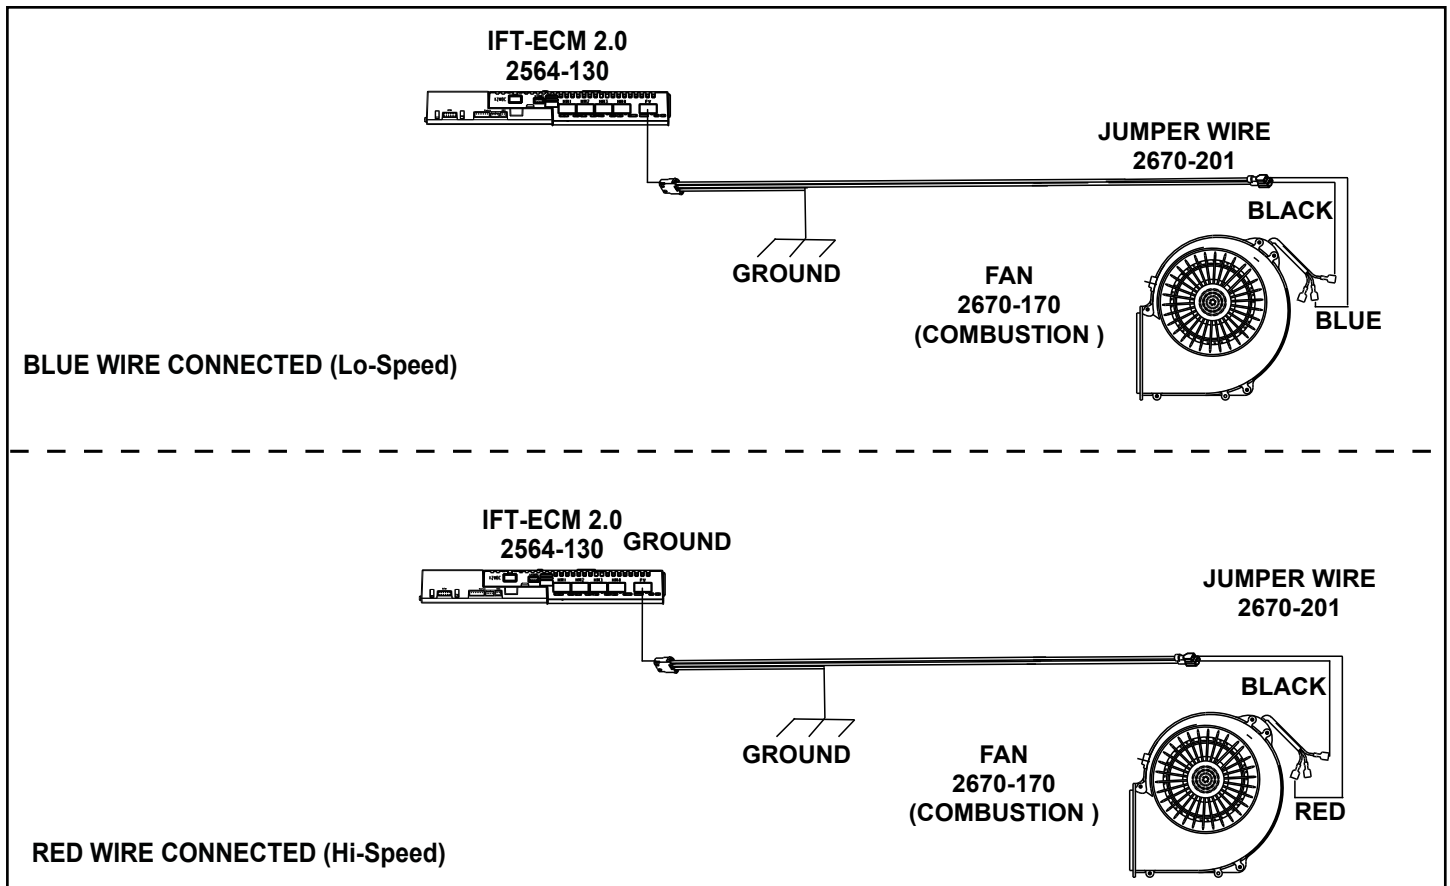

Figure 4.12 Fan Speed Wiring Diagram
7. Connect the red Hi-Speed wire on the combustion fan to the wire harness. See Figure 4.12.